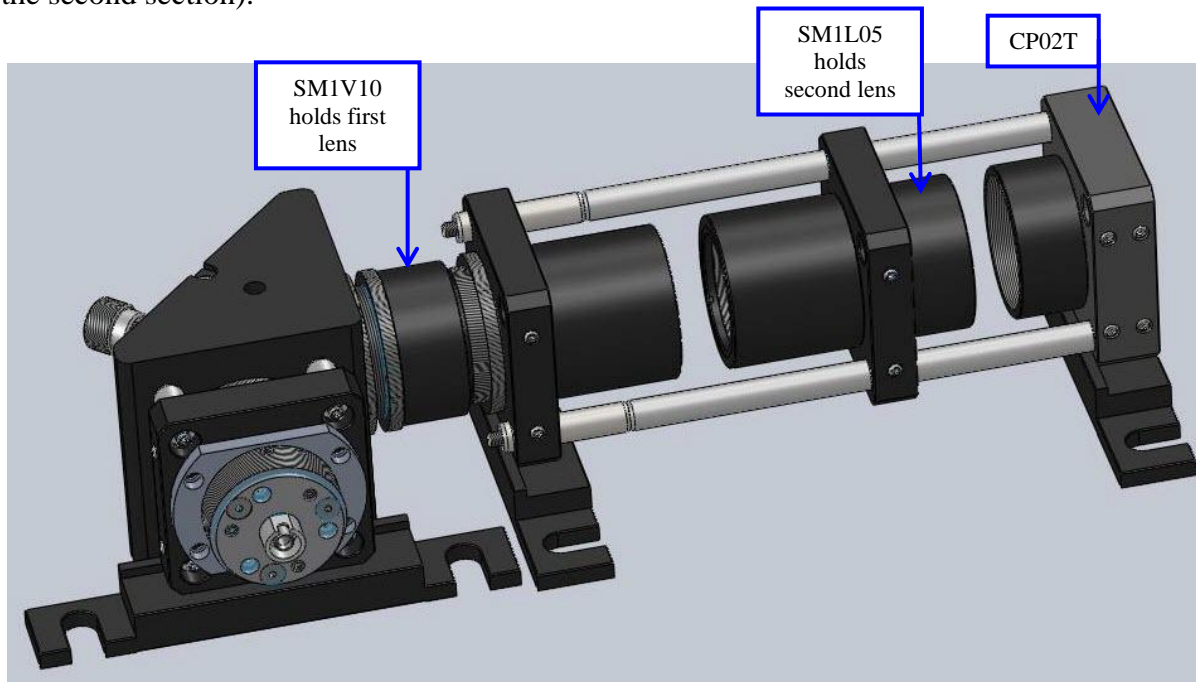

Figure 5.2.1: Building the beam expander segment
5. Thread an SM1L10 on the other side of the CP02 holding the SM1V10 and first lens. The lens tube will thread into the SM1V10 also. The SM1L10 should touch the other face of the CP02 as shown in Figure 5.2.1.
11. Connect the assembly from steps 7 to 9 together using the rods created in step 10 as shown in Figure 5.2.1. The cage rods are located diagonally from each other. In this arrangement, you have the flexibility of manually adjusting the position of the second lens along the optical axis over a range of approximately 12mm. If you want to enclose the beam completely (which we recommend), then you can put segments of the lens cover SC1L24 over the two open sections in Figure 5.2.1. You will need a two inch long cut (for the first section) and a one inch long cut (for the second section).